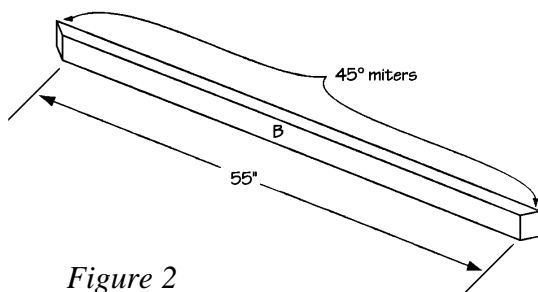
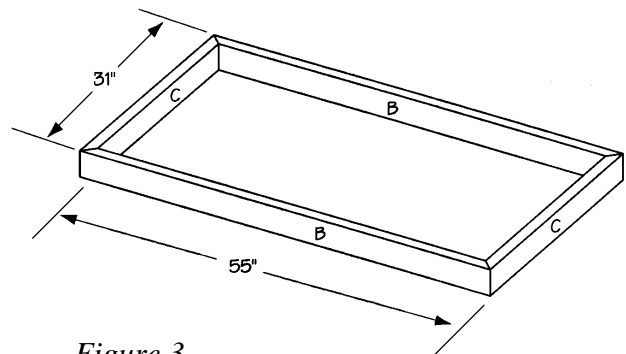

Figure 2
Figure 3
1. Cut two long sides (B) from 2 x 4 pine, each measuring 55 inches long.
2. Miter each end of the long sides (B) at a 45-degree angle, as shown in *Figure 2*.
4. Cut two short sides (C) from 2 x 4 pine, each measuring 31 inches long.
5. Miter each end of the short sides (C) at a 45-degree angle, as you did for the long sides (B).
6. Place the long sides (B) parallel to each other on a level surface, with the miters facing in. Fit the short sides (C) between the long sides (B), matching miters on all four corners, as shown in *Figure 3*. Apply glue to the meeting surfaces of the miters, and screw through each mitered joint using a 2-1/2-inch long screw on each side.